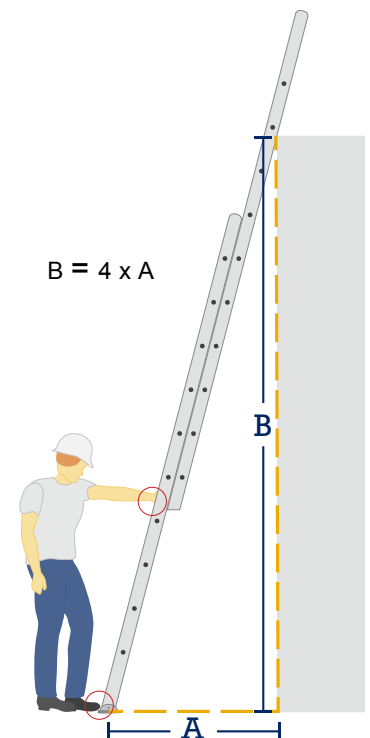

Figure 1.
- On solid, level surfaces such as concrete floors, use ladders with nonslip feet. (See Figure 1.)
- Set the ladder at the angle as shown in Figure 1. Ladders placed at low angles are more likely to slip. (See Spotlight on Research, page 3.)
- When setting up, adjust the ladder to the proper slope of 75.5° (4:1). Using the ladder's label as a guide for measuring; set the feet one-quarter of the working length away from the wall (see Figure 1 on page 1).